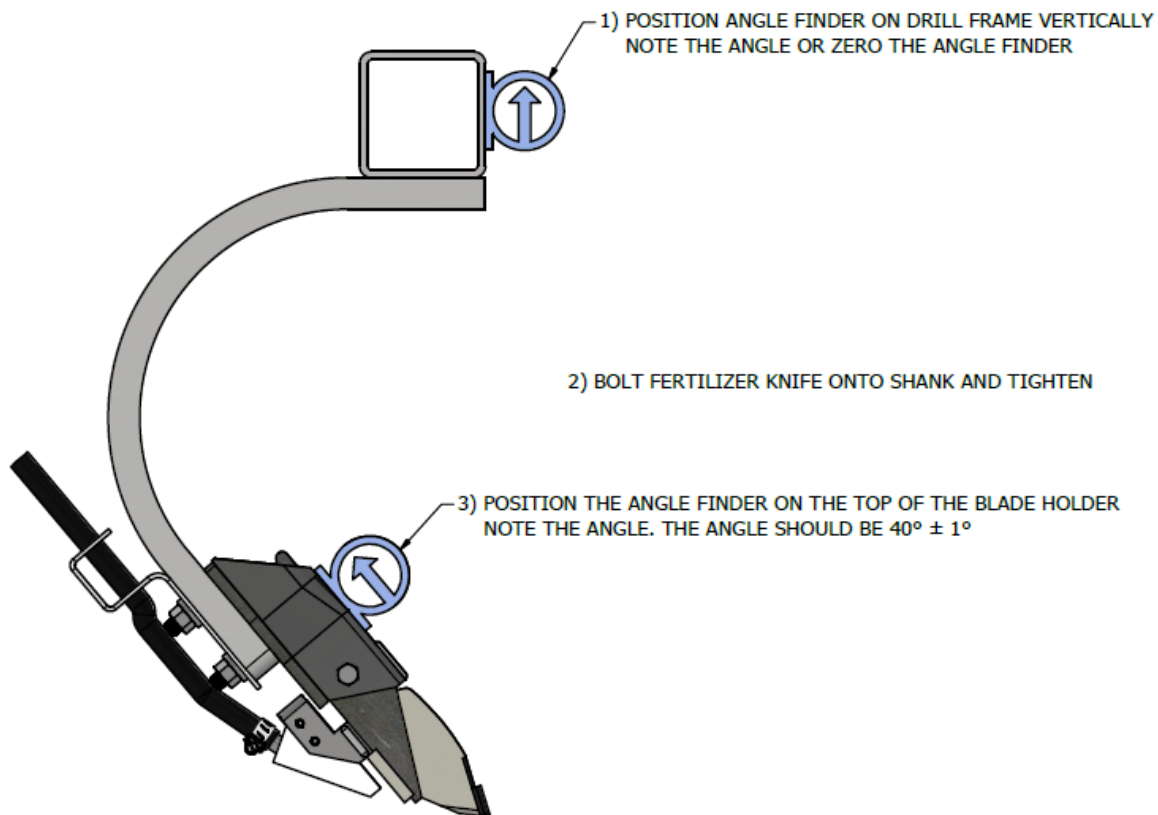

Figure 1: Angle measurement procedure
- 1) Bolt the blade holder and hose bracket to the shank using the provided carriage bolts, washers, and nuts, remembering to check the shank angle as described in Figure 1.